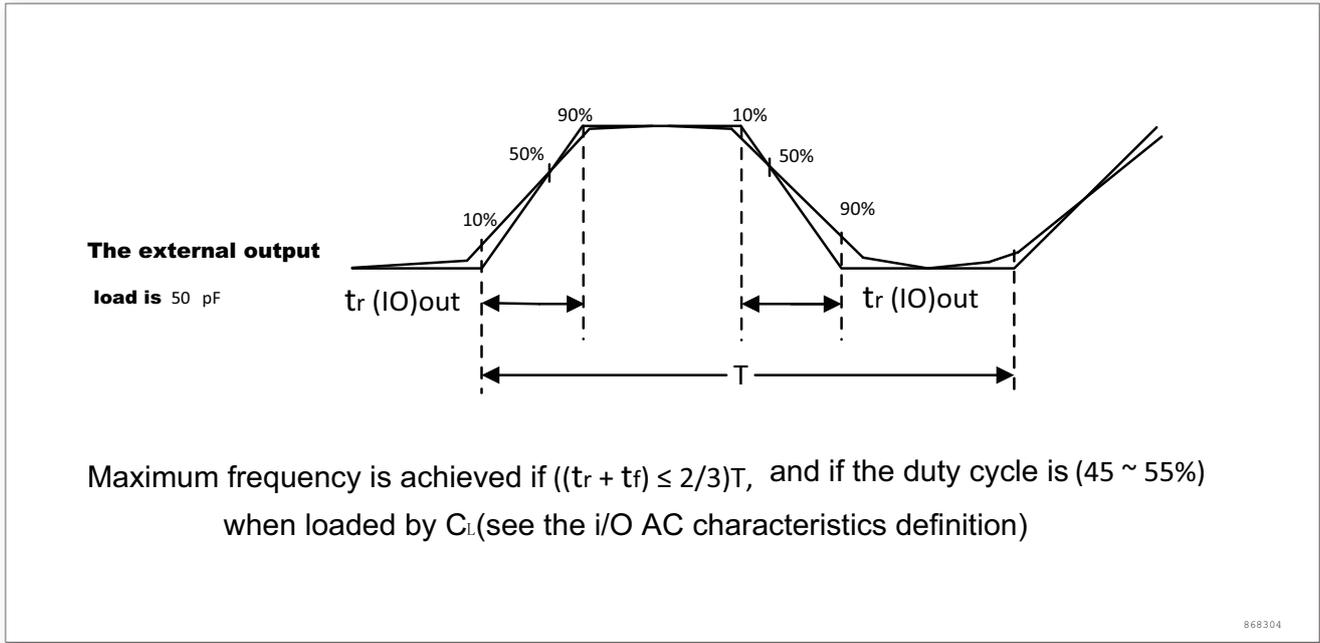

Figure 15. I/O AC characteristics
The definitions and values of the input and output AC characteristics are given in figure 15 and Table 35, respectively.
2. The maximum frequency is defined in figure 15.